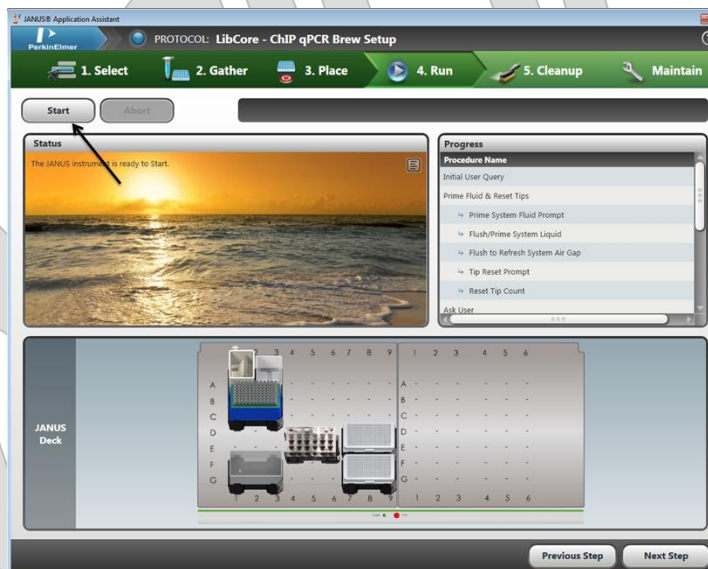

Figure 6: qPCR brew setup program start
3.16. Click 'Start' as indicated by the arrow in Figure 6.